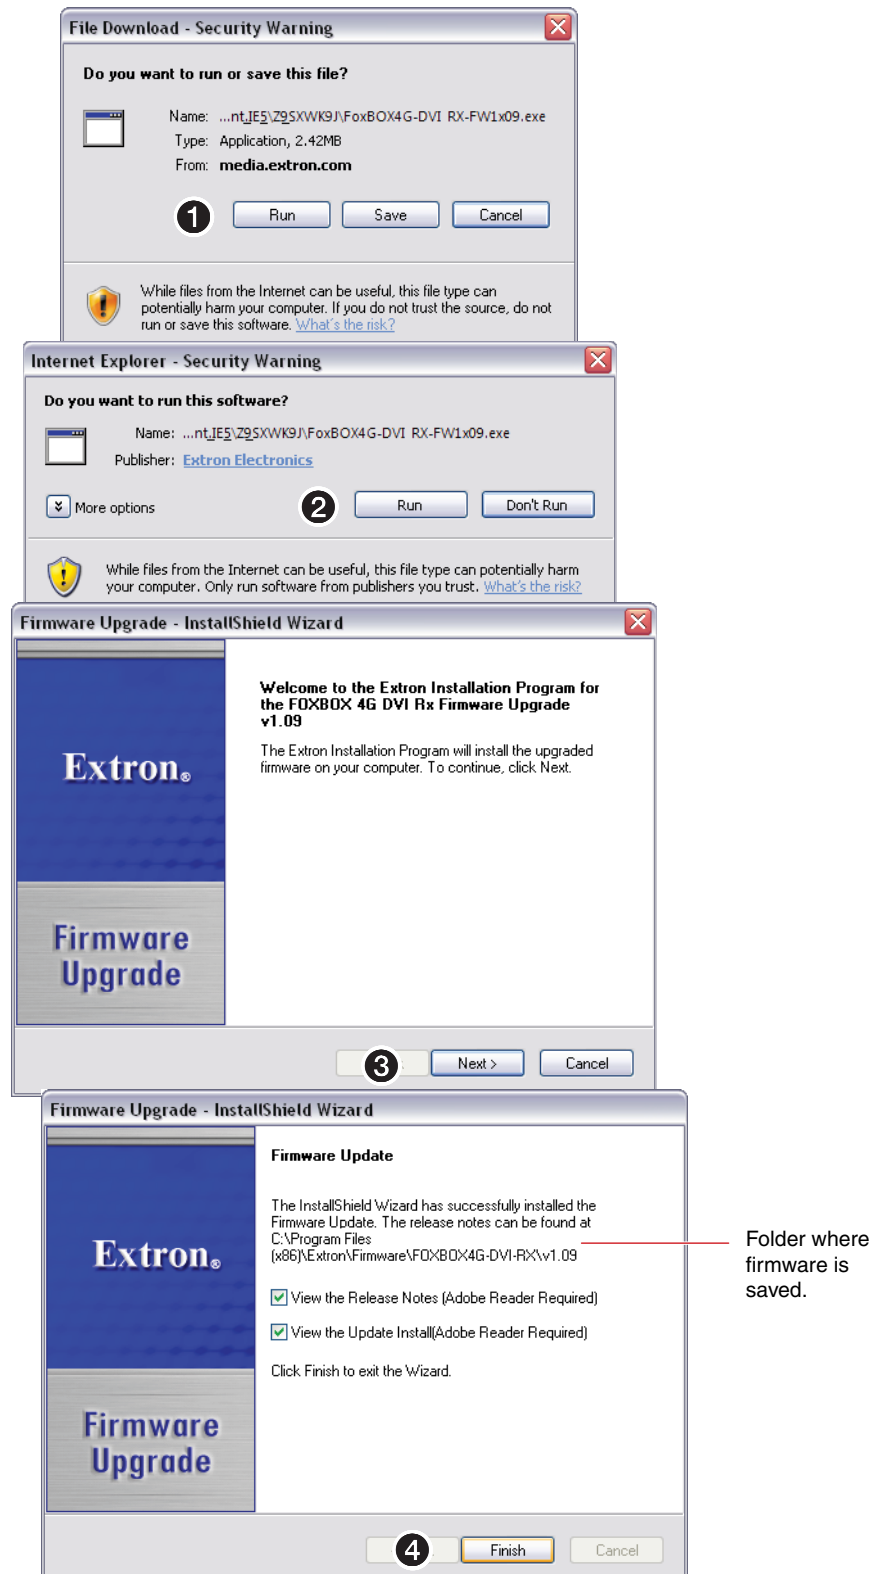

Figure 20. Downloading Firmware Upgrade Files
2. Click **Run** in the **File Download and Security Warning** dialog boxes (see **figure 20, ①** on the next page). The PC downloads the firmware update from the Extron website and starts the Extron Installation Program to extract the firmware file.
3. Click **Finish** (②). The program extracts the firmware files and places them in a folder identified in the InstallShield Wizard.
At the conclusion of the process, the utility reports **Update Complete** and prompts you to reconnect to the device (see figure 20).